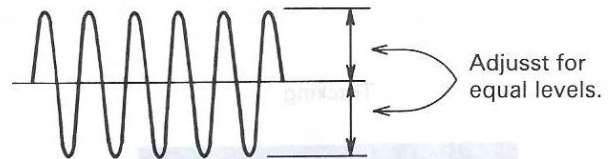

Figure 26 Tracking Error Balance Adjustment
- 3) Adjust R112 so that tracking error waveform shows equal amplitude in its up and down swings. (Figure 26)